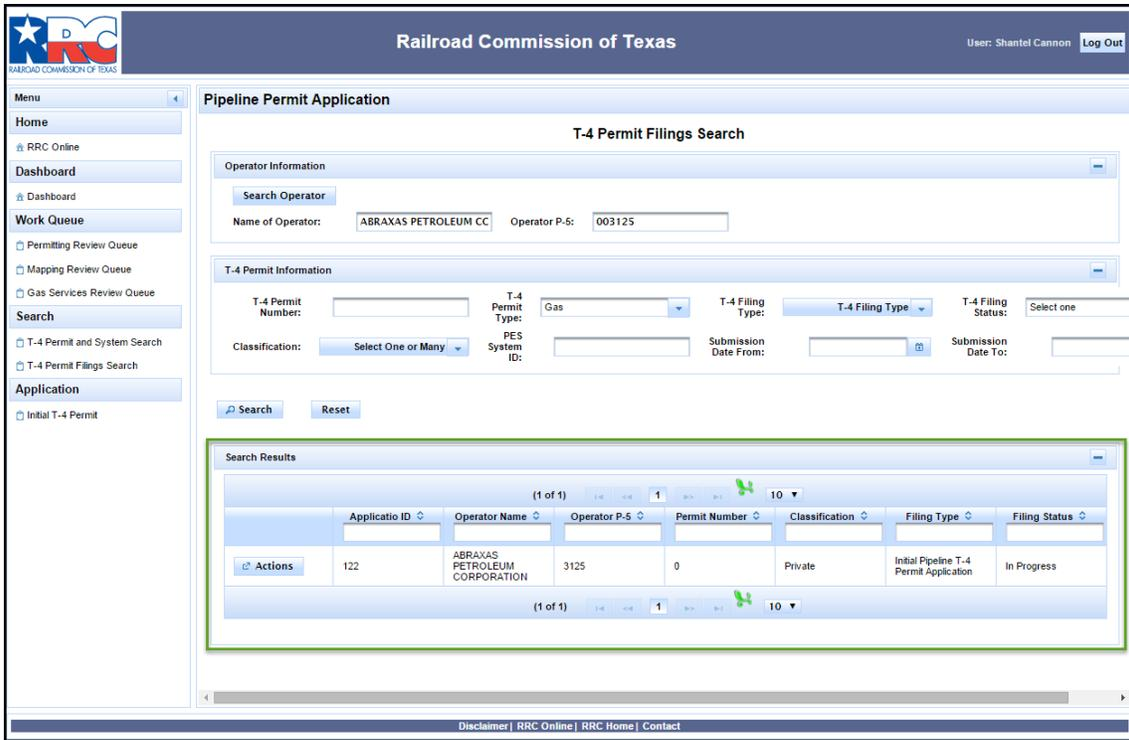

Figure 9: View Search Results on the T-4 Permit and System Search Screen
4. Click the **Search** button to display the search results. An example of search results is shown in the green box on Figure 9 below.